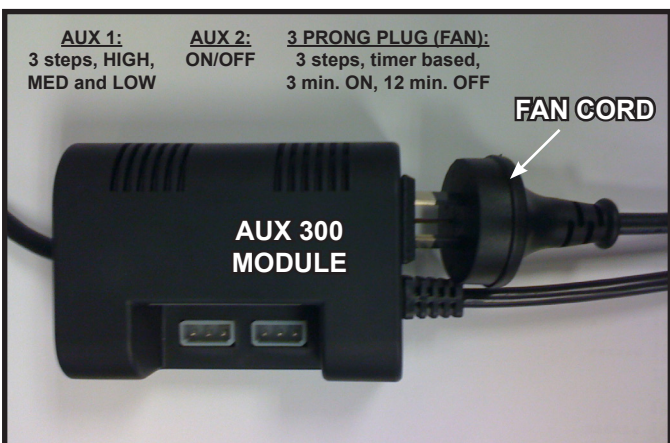

Figure 12.8 Plug Fan into AUX300CE Module
- Insert the 3 prong plug from the fan into the receptacle located in the AUX300CE module. See Figure 12.8.